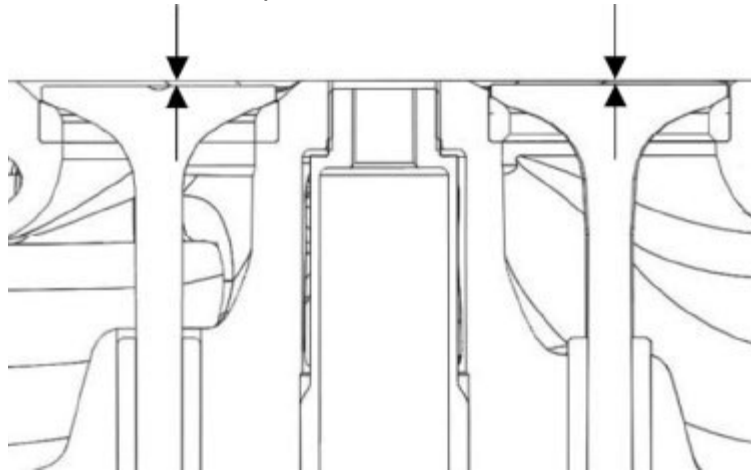

Figure 62. Valve Recession Check
5. Insert the valves into their original locations and press them down until they are fully seated. Use a depth micrometer (Figure 62) to measure the difference between the cylinder head gasket surface and the combustion surface of each exhaust and intake valve. See *Cylinder Head specification chart* for the service limit.